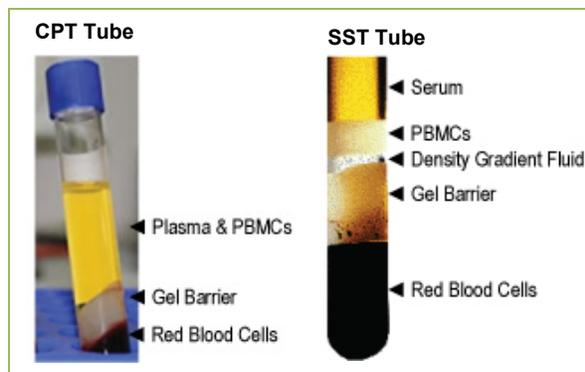

Figure 2: Vacutainer CPT and SST Tubes after Blood Centrifugation
5. Inspect the tubes to ensure that proper blood separation was achieved (Figure 2).
- Carefully remove the cap from the CPT tube and gently pour the plasma and PBMCs above the gel barrier (Figure 2) into an ice-cold 50 ml conical centrifuge tube. Maintain on ice.